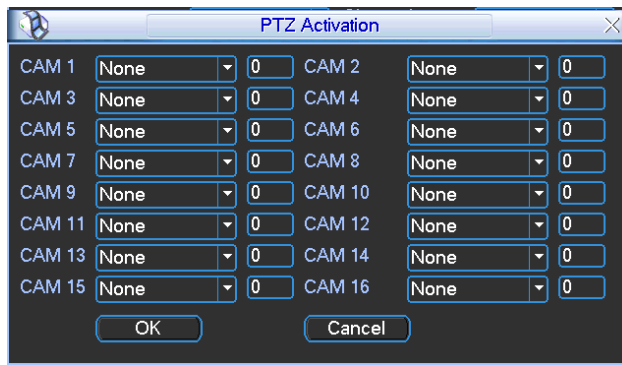

Figure 4-27
- z PTZ activation: Here you can set PTZ movement when an alarm occurs. Such as go to preset, tour & pattern when there is an alarm. Click “select” button, you can see an interface is shown as in Figure 4-27.